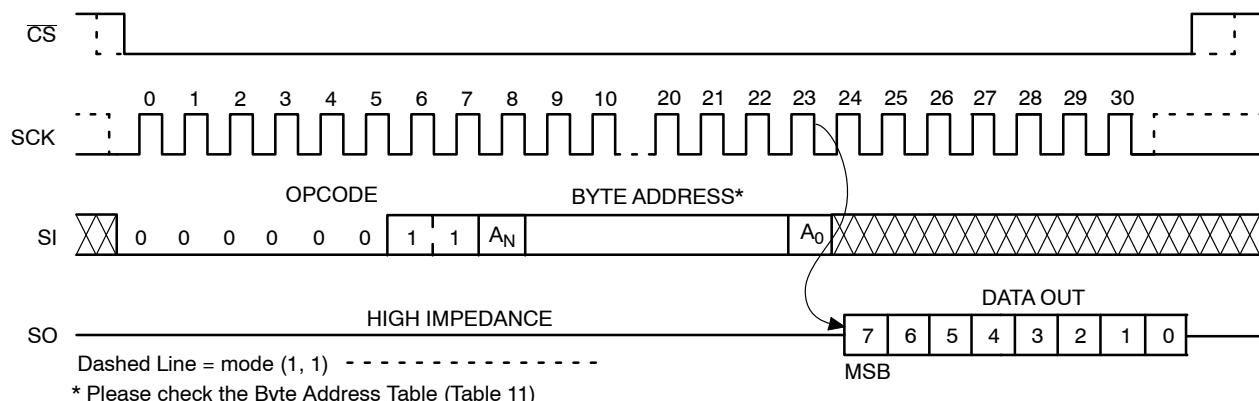

Figure 8. READ Timing
After receiving the last address bit, the NV25xxx will respond by shifting out data on the SO pin (as shown in Figure 8). Sequentially stored data can be read out by simply continuing to run the clock. The internal address pointer is automatically incremented to the next higher address as data is shifted out. After reaching the highest memory address, the address counter “rolls over” to the lowest memory address, and the read cycle can be continued indefinitely. The read operation is terminated by taking CS high.
Reading the additional 64-byte Identification Page (IP) is achieved using the same Read command sequence as used for Read from main memory array (Figure 8). **The IPL bit from the Status Register must be set (IPL = 1) before attempting to read from the IP.** The [A4:A0] are the address significant bits that point to the data byte shifted out on the SO pin. If the CS continues to be held low, the internal address register defined by [A4:A0] bits is automatically incremented and the next data byte from the IP is shifted out. The byte address must not exceed the 64-byte page boundary.